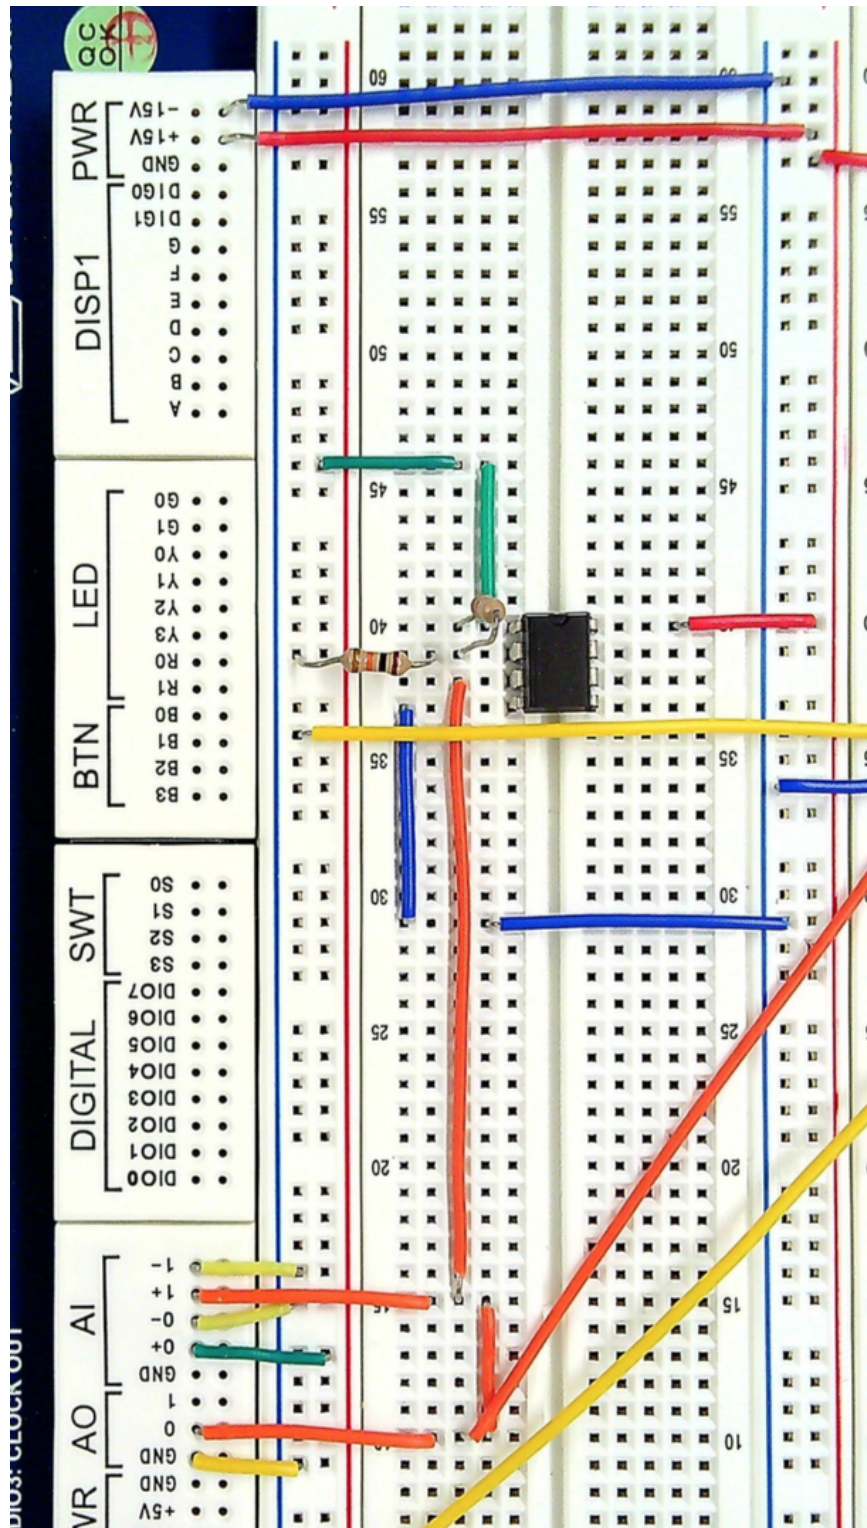

Figure 2: Sample wiring diagram for LM358 op-amp.
In this experiment, you will construct and test two op-amp circuits. The first will be the non-inverting amplifier shown in figure 2, using National Instruments' LM358 DIP (dual in-line package) chip. The second will be an instrumentation amplifier circuit using Analog Devices' AD622 DIP. Both circuits will be built to achieve a gain of approximately $G = 3$. Details for both of these DIP chips are given at the end of this document.
2. Place the op-amp on the breadboard across the center channel as seen in Figure 2.
6. Connect your resistors as shown in figure 2, with $R_1 = 10 \text{ k}\Omega$ and $R_2 = 20 \text{ k}\Omega$.